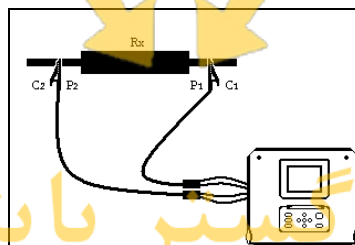

Figure 5.3: Measurement of Resistance
- ❑ Connect device under test to the instrument (see figure 5.3).